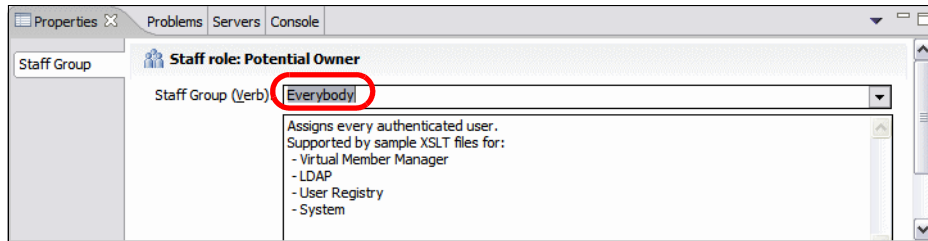

Figure 10-29 Human tasks: Change Role Members to Everybody
- ▶ Select *Potential Owner* under Receiver Settings. In the Properties view, select *Everybody* as the staff group (Figure 10-29).